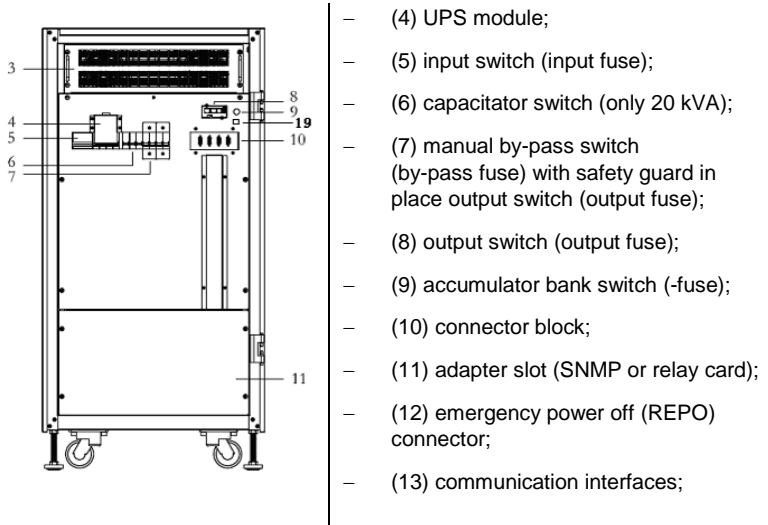

Fig. 3-8 UPS front view with open cabinet door (10 – 20 kVA).
After opening the front cabinet door (Fig. 3-8 below), all relevant device components can be accessed with the exception of the accumulators. The UPS module ((3) 10, 15 or 20 kVA) is located the upper part, integrated with a typical slide-in construction. Immediately below the module are the circuit breaker, the communication interfaces, the adapter slot, the external emergency power off push-button (REPO), etc. The following figures illustrate the individual views of open UPS-systems and list the individual device components: